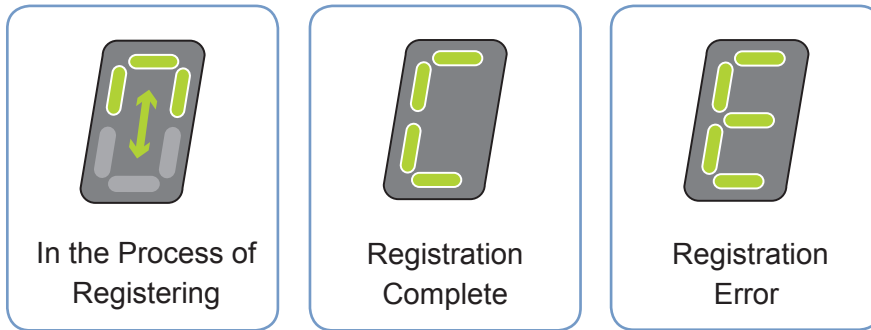

Figure 20: Display while Registering
3. The Control Unit's display will light up in 2 alternating arches  until the registration is complete (See Figure 20).